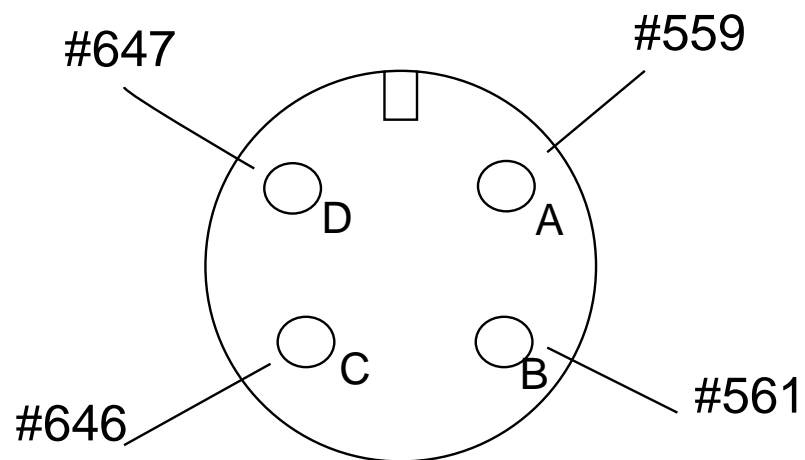

FIGURE B.6 Travel Motor Connector Pins (Older Units with Powered Field.)
3. *Apply field voltage first (pins C and D) to the motor. See Figure B.6 and Table B.4
1. *Carefully connect the 110VDC supply (SUPPLY TURNED OFF) to pins C and D on the travel motor connector. See Figure B.6